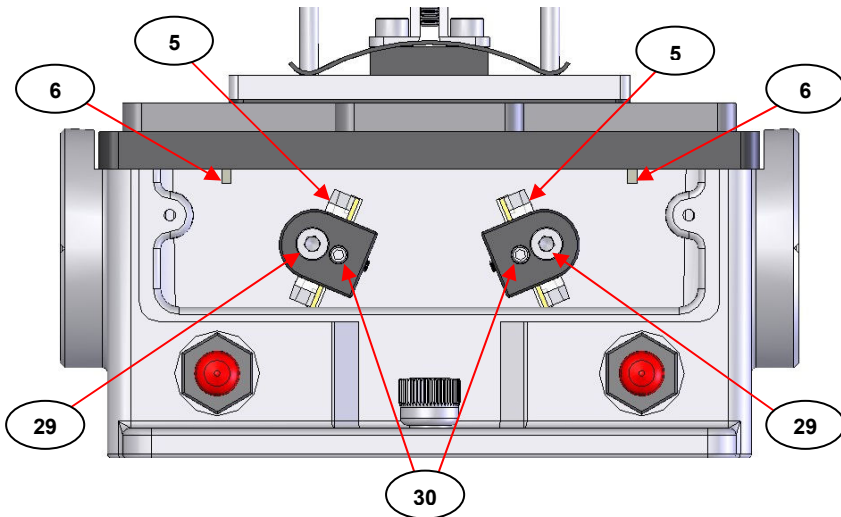

Fig 14. Gateway™ ATR Movable Mirrors for Rotate and Tilt
With removal of the front cover plate (27), the two movable mirrors (5) will be accessible as shown from Fig 14.